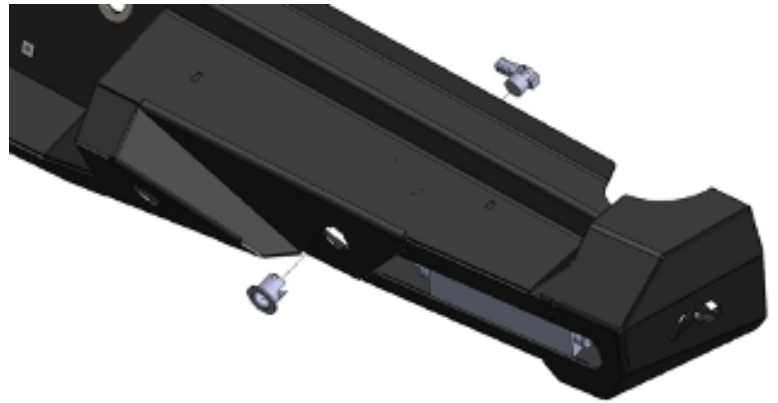

Figure 6
8. Install the sensor housings into the new bumper placing them in their respective holes. Install the sensors into their housings at this time. If your vehicle is not equipped with parking sensors, installed the provided plastic plugs with rubber grommets instead. (Figure 6)